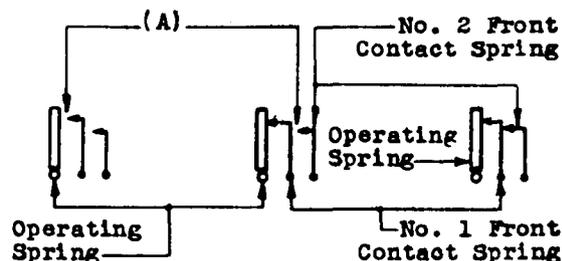

Fig. 21 - Contact Separation - Switchhook (Make-Make) Spring Combination
(e) Switchhook (Make-Make) Spring Combinations - Fig. 21 (A): With the operating bar in the normal and neutral positions, the separation at the closest point between the contacts of the operating spring and the No. 1 front contact spring and between the contacts of the No. 1 front contact spring and the No. 2 front contact spring respectively, shall be: